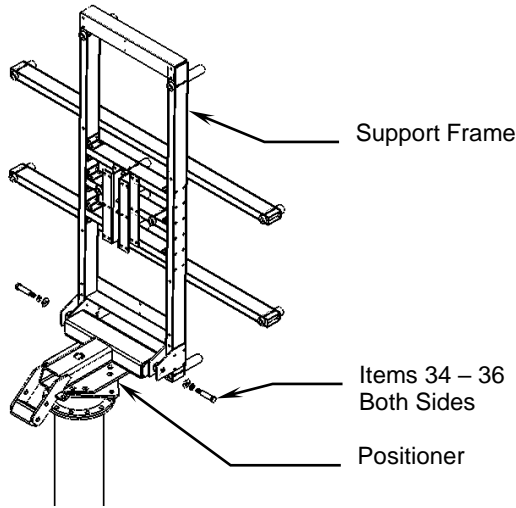

Figure 12: Support Frame Positioner Assembly
9. As shown in Figure 12, Support Frame Positioner Assembly, lift the assembled support frame to the Az/EI positioner and secure with 1" hardware (items 34, 35, 36). Lay the frame back to rest on positioner.